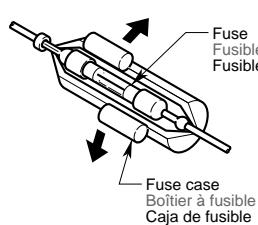

Figure 10 / Figure 10 / Figura 10
4. To replace the fuse, open the lock on the source unit side, remove the old fuse and insert the new one. (Figure 10)